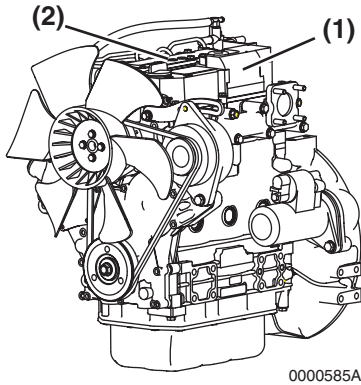

Figure 3
Figure 3 shows the location of regulatory and safety labels on Yanmar TNV series indirect injection model engines.
The typical location of the emission control information label is shown (**Figure 3, (1)**).
Typical location of the engine nameplate is shown (**Figure 3, (2)**).